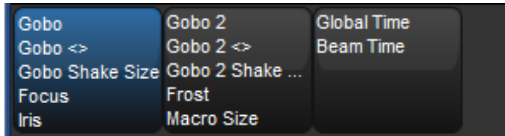

Figure 6.7. The Wheelsets Toolbar for a Studio Spot 575
2. If the selected fixture has more parameters of the selected type than there are wheels, the Wheelsets Toolbar will open; see *Figure 6.7, "The Wheelsets Toolbar for a Studio Spot 575"*. Page through the available